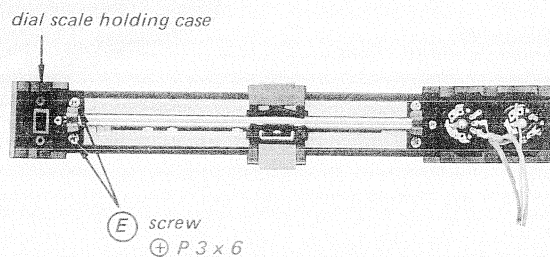

Fig. 2-3
3. Remove the two screws marked (E) in Fig. 2-3 and remove the dial scale holding case.